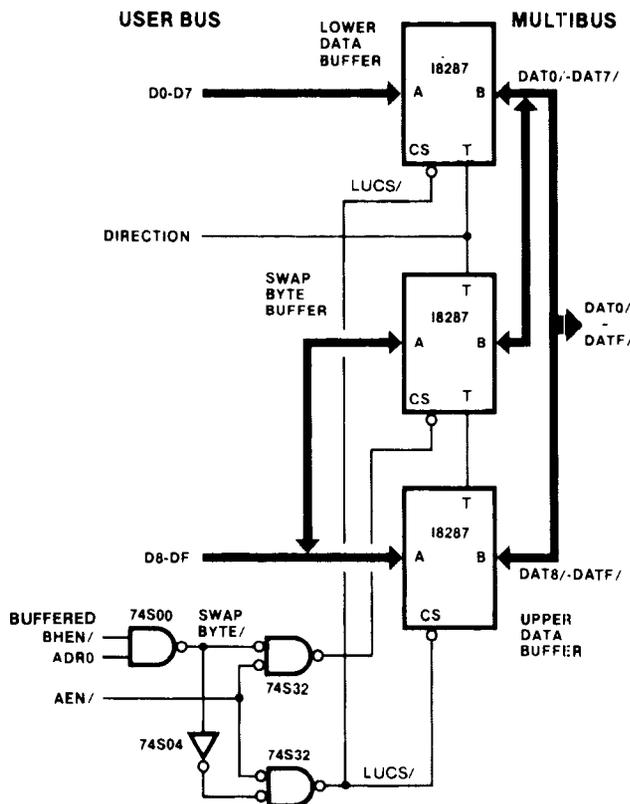

Figure 5-12. 16/8 Bit Data Drivers
**5.1.3.2 16-Bit Data System.** The 16 bit data system example is shown in Figure 5-12. In the 16 bit system there are 3 sets of buffers; the lower data buffers which buffer DAT0-DAT7, the upper data buffers which buffer DAT8-DATF, and the swap byte buffer which takes the data from DAT0-DAT7 on the MULTIBUS interface and puts it on the on board data bus, D8-DF.
Two control signals must be derived for each of the data buffers, the chip select and the direction. The direction for all three buffers is the same, and identical to the 8 bit data system. The truth tables for each of the chip selects shown in table 5-2, are derived from information shown in Figure 5-12.